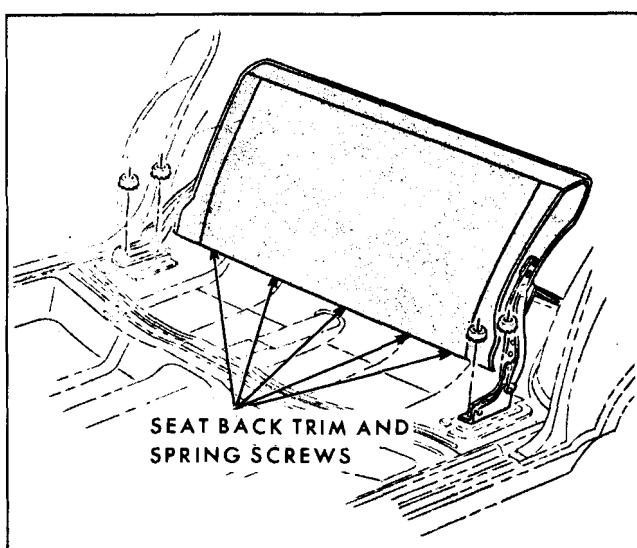

Fig. 14-69-Second Seat Back Trim and Spring Assembly - "A" Body Two-Seat and Three-Seat Styles
2. On underside of second seat back panel, remove screws securing seat back trim assembly to seat back panel (see Fig. 14-69).